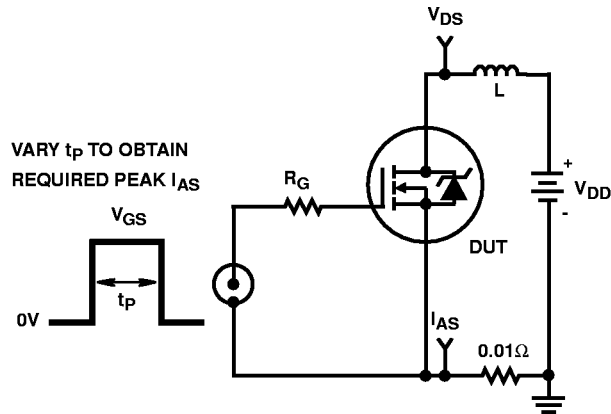

FIGURE 15. UNCLAMPED ENERGY TEST CIRCUIT
- $V_{DD} = 50\text{V}$, starting $T_J = 25^\circ\text{C}$, $L = 3.37\text{mH}$, $R_G = 25\Omega$, peak $I_{AS} = 18\text{A}$. (Figures 15, 16).